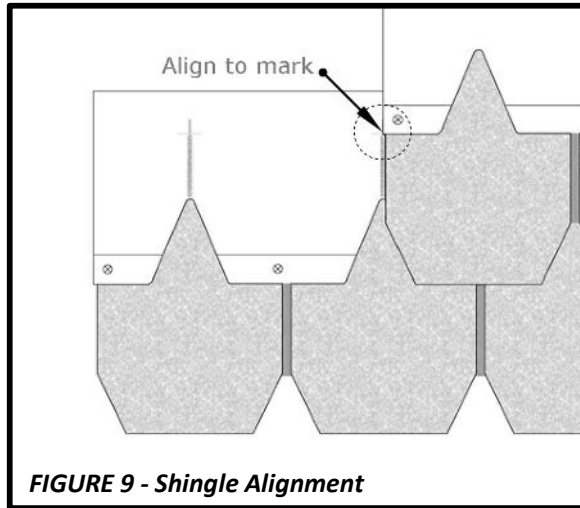

FIGURE 9 - Shingle Alignment
- Install with a **1.5-tab offset** by placing the edge of the shingle on the alignment mark. See **Figure 9**.